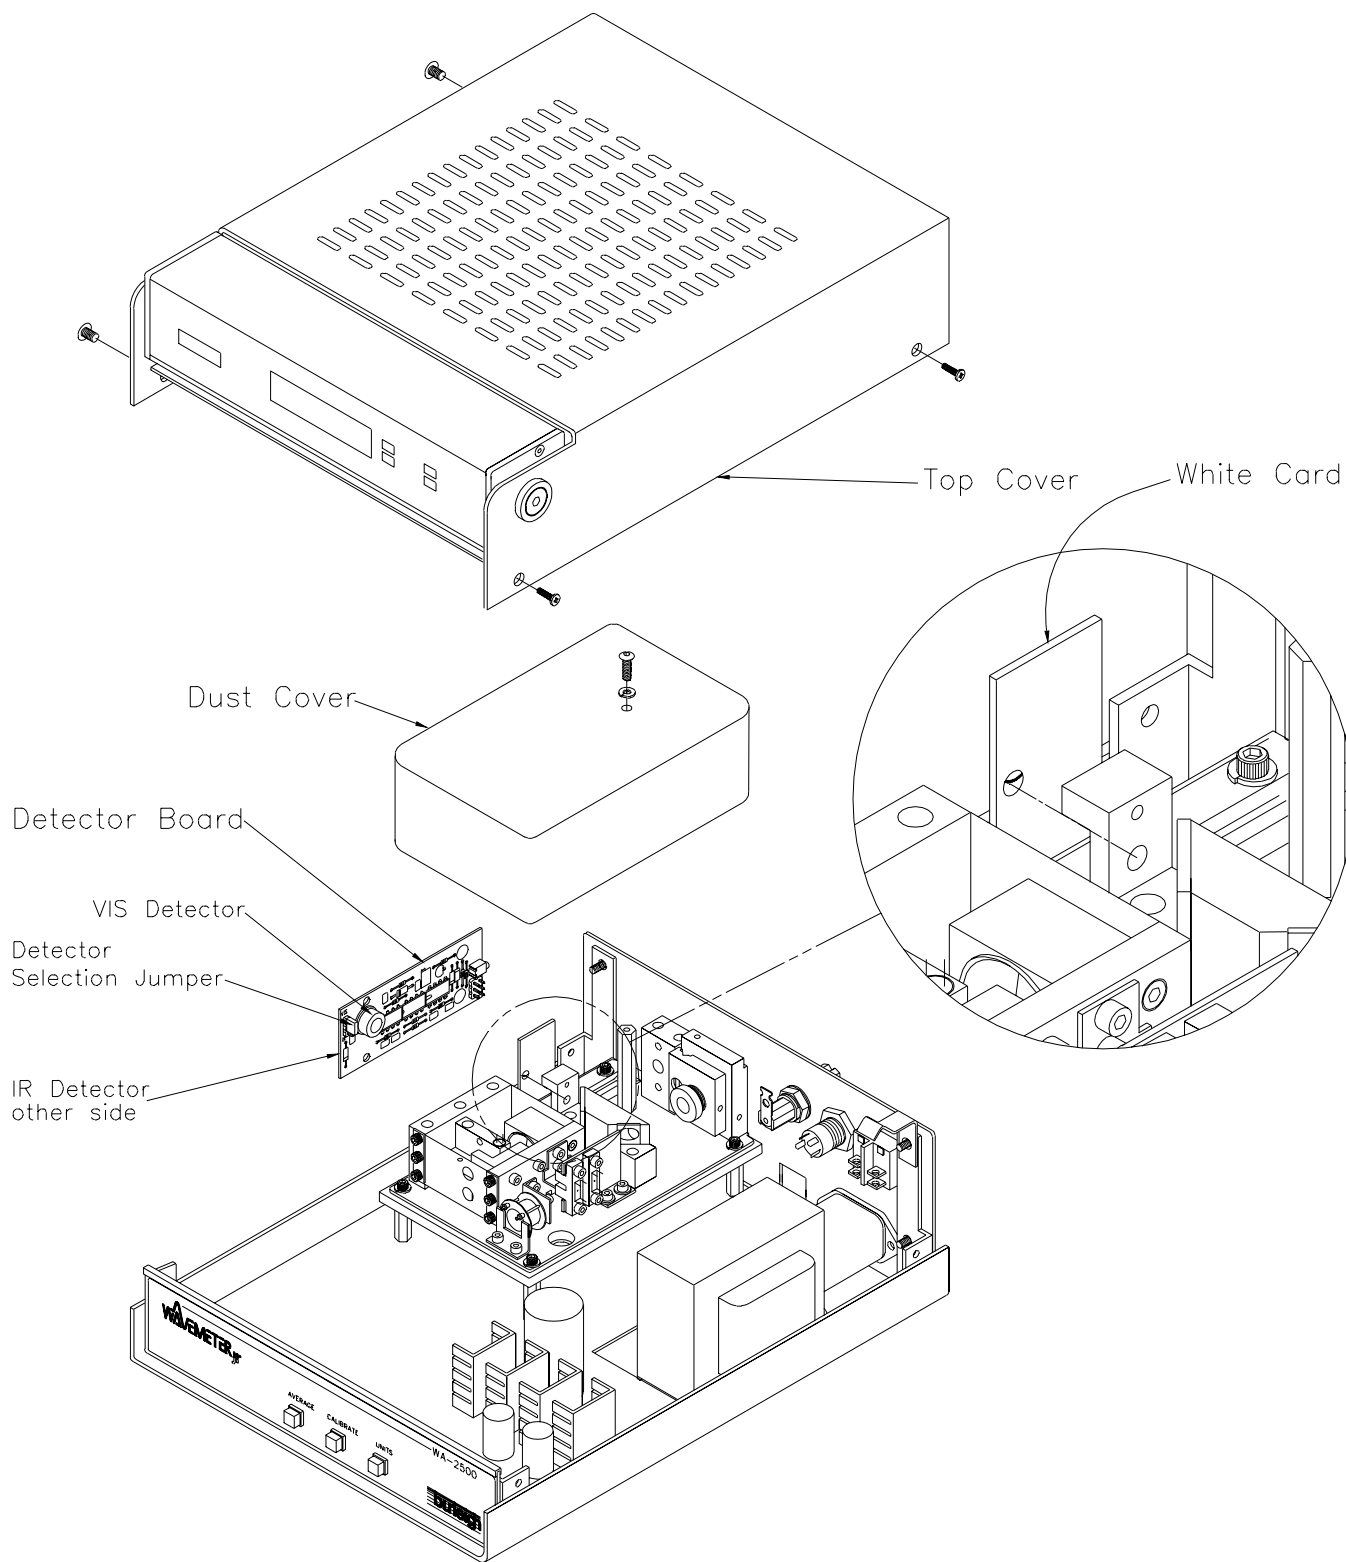

Figure 3.6. Wavemeter_{jr} Exploded View.
If major realignment of the Michelson interferometer is required, refer to Figure 3.6 and use the following procedure:
5. Align the beam receiver with a HeNe laser and observe the laser beam that would normally hit the detector by placing a white card just beyond where the detector mounts, as shown in Figure 3.6.
To switch the WA-2500 from VIS to IR operation (or vice versa), refer to Figure 3.6 and use the following procedure:
Refer to Figure 3.6 and use the following procedure to set the correct optical path length: